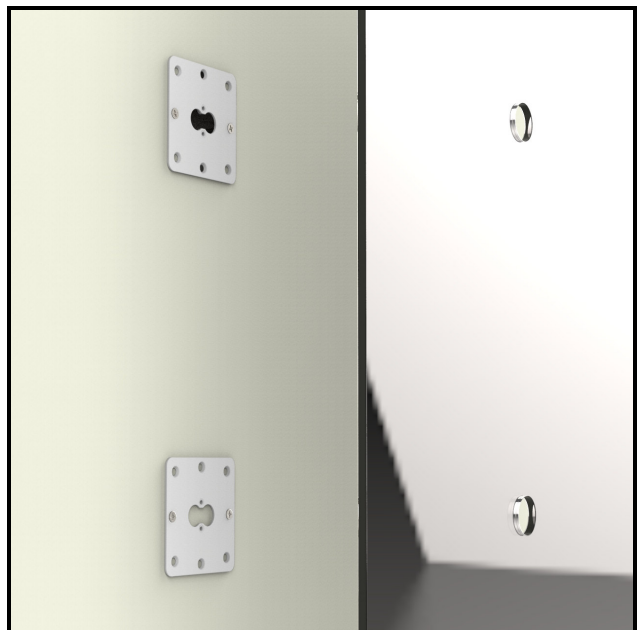

Figure 8
- With brackets secured to wall, adhere mirror to wall, directly over the brackets. Mirror cutouts should be centered over brackets (Figure 8).